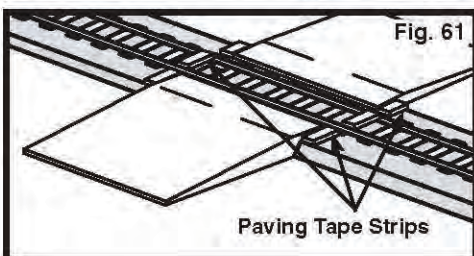

Fig. 61
3. Cut and place narrow strips of Paving Tape along outer edges of Inclines, between rails and at outside rail edges (**Fig. 61**). This will act as a form when spreading Smooth-It.